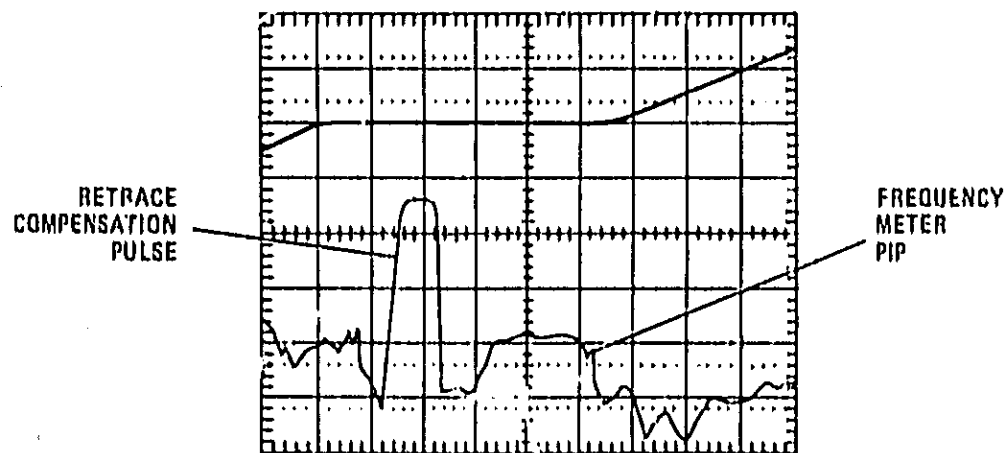

Figure 5-13. YO Retrace Compensation Pulse
5. Use the delayed sweep vernier to set the delayed part of the trace on the bandswitch point between Band 1 and Band 2 as shown in Figure 5-13.
7. Start with A8R55 (RTC COMP) fully clockwise and adjust it for the widest and flattest pip while moving the Frequency Meter to track the bandswitch frequency. A well adjusted retrace compensation pulse is shown in Figure 5-13.